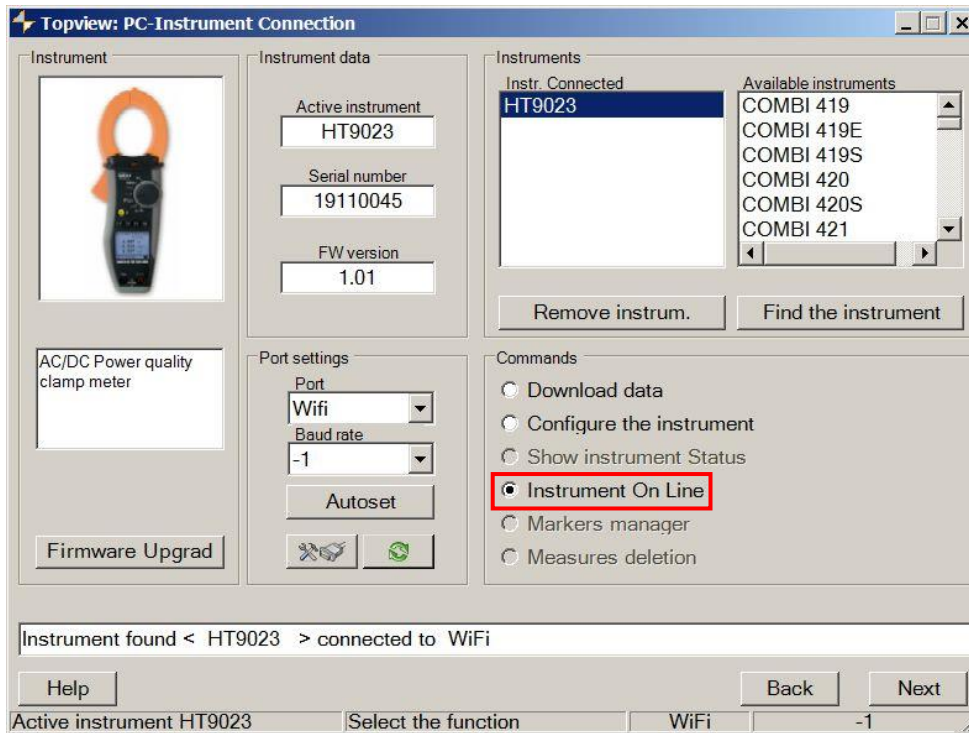

Fig. 19: Real-time connection of the instrument
- Open the "PC-Instrument connection" section and select the "Instrument on line" option as shown in the following Fig. 19